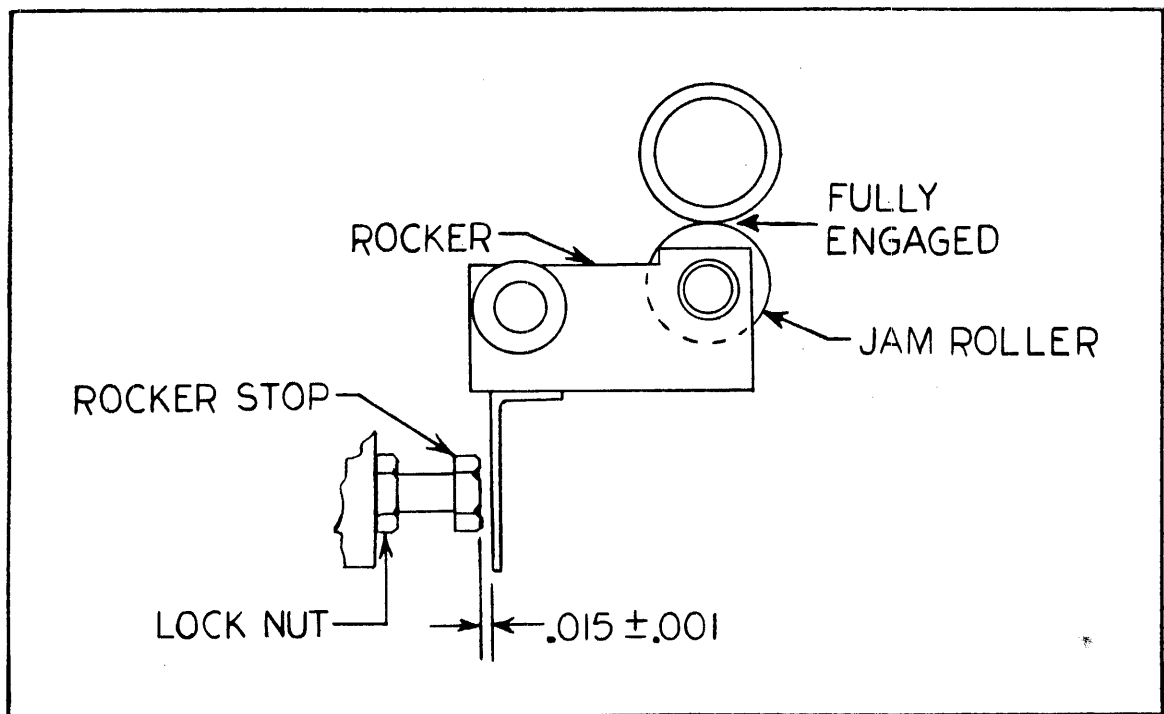

Figure 4-1
The drive system consists of a rotating drive roller and an electromagnetically operated jam roller. Refer to Section 4.2, Figures 4-1 and 4-2. A current, as described in Section 1, applied to the drive magnet causes the rocker arm assembly to be actuated which, in turn, forces the jam roller against the drive roller. The tape is then pulled through the reader at a constant velocity. Adjustment of the drive system is described in Sections 4.2.1 and 4.2.2.
Adjustment of the rocker-rocker stop gap is made with the jam roller and capstan fully engaged as shown in Figure 4-1. This adjustment is performed as follows:
- d. Rotate the rocker until the rollers are engaged and adjust the rocker stop until the gap is as shown in Figure 4-1.